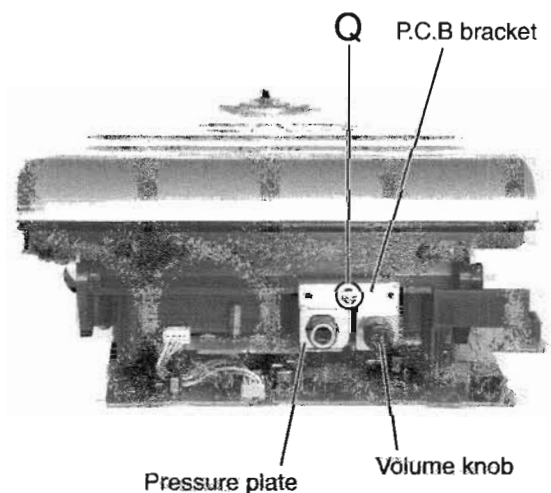

Fig.13
■ Guittar and Mic.jack P.C.B.removal (See Fig.13)